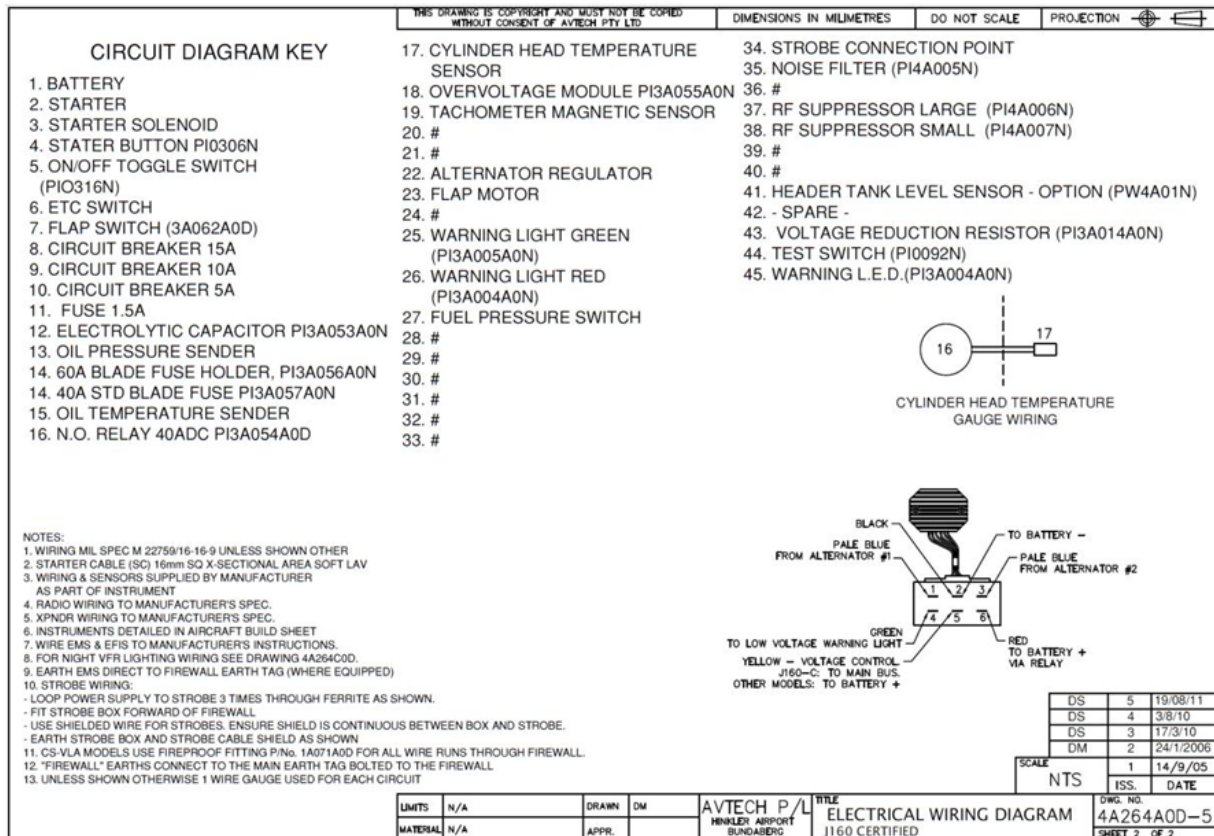

Figure 125 – Wiring Diagram Sheet 2.
- The wiring diagram for a standard aircraft is shown in Figure 124 and Figure 125.
- For best noise suppression, ferrite beads must be fitted to the power & earth wires leading to the power supply. Shielded wires must be used for the connection to the lights themselves and the shielding must be electrically continuous between the light and the control box. Ensure the box itself is connected to the aircraft's earth with minimum impedance. Refer to Figure 124 and Figure 125